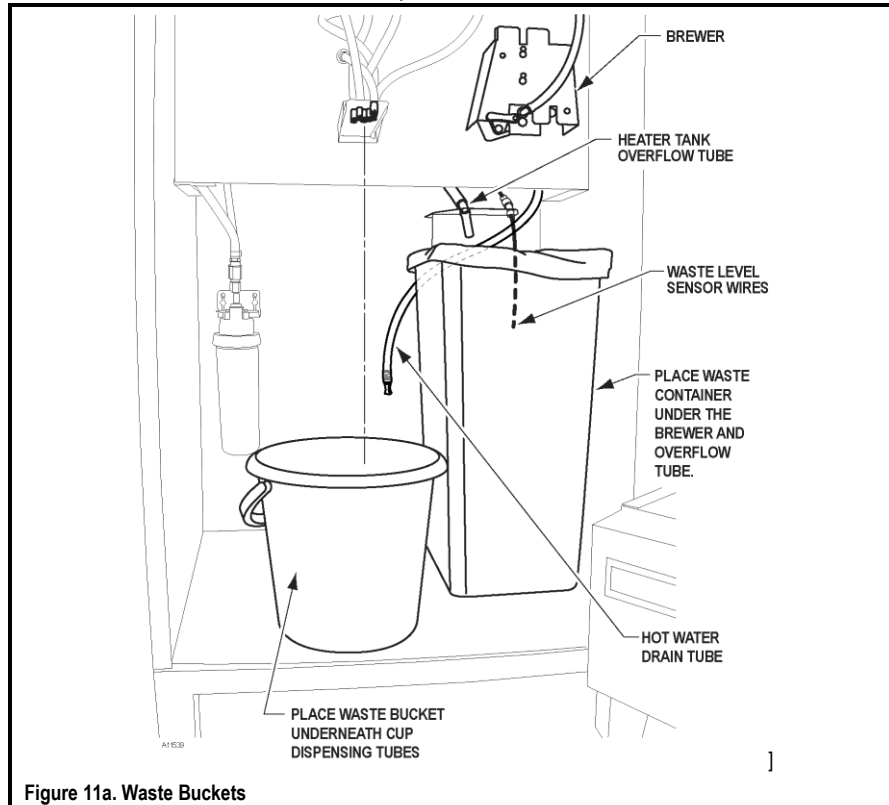

Figure 11a. Waste Buckets
2. Place the small bucket under the cup dispensing tubes. See Figure 11a.